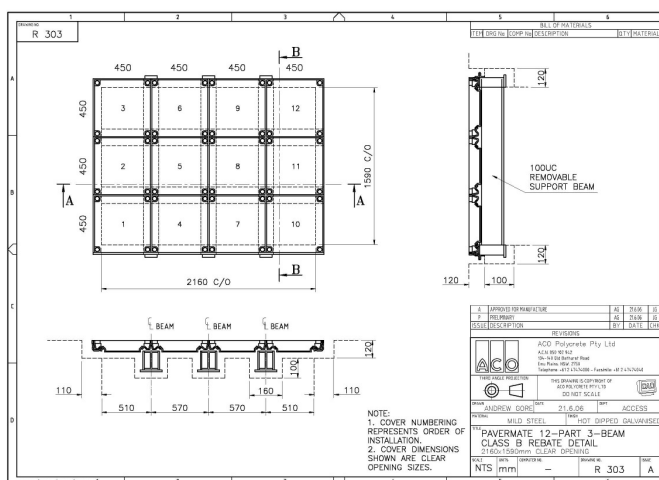

Figure 1 – Multi-part Cover Rebate Detail
1. Using ACO's Multipart Cover Rebate Detail, provided once order is placed with ACO (example shown in Figure 1), form the access pit and rebate. Ensure that the pit clear opening, beam pockets and pit wall rebates are consistent with the detail. The numbering system on the drawing represents the position and order of installation of the covers. The frames and beams are numbered to help locate the covers.